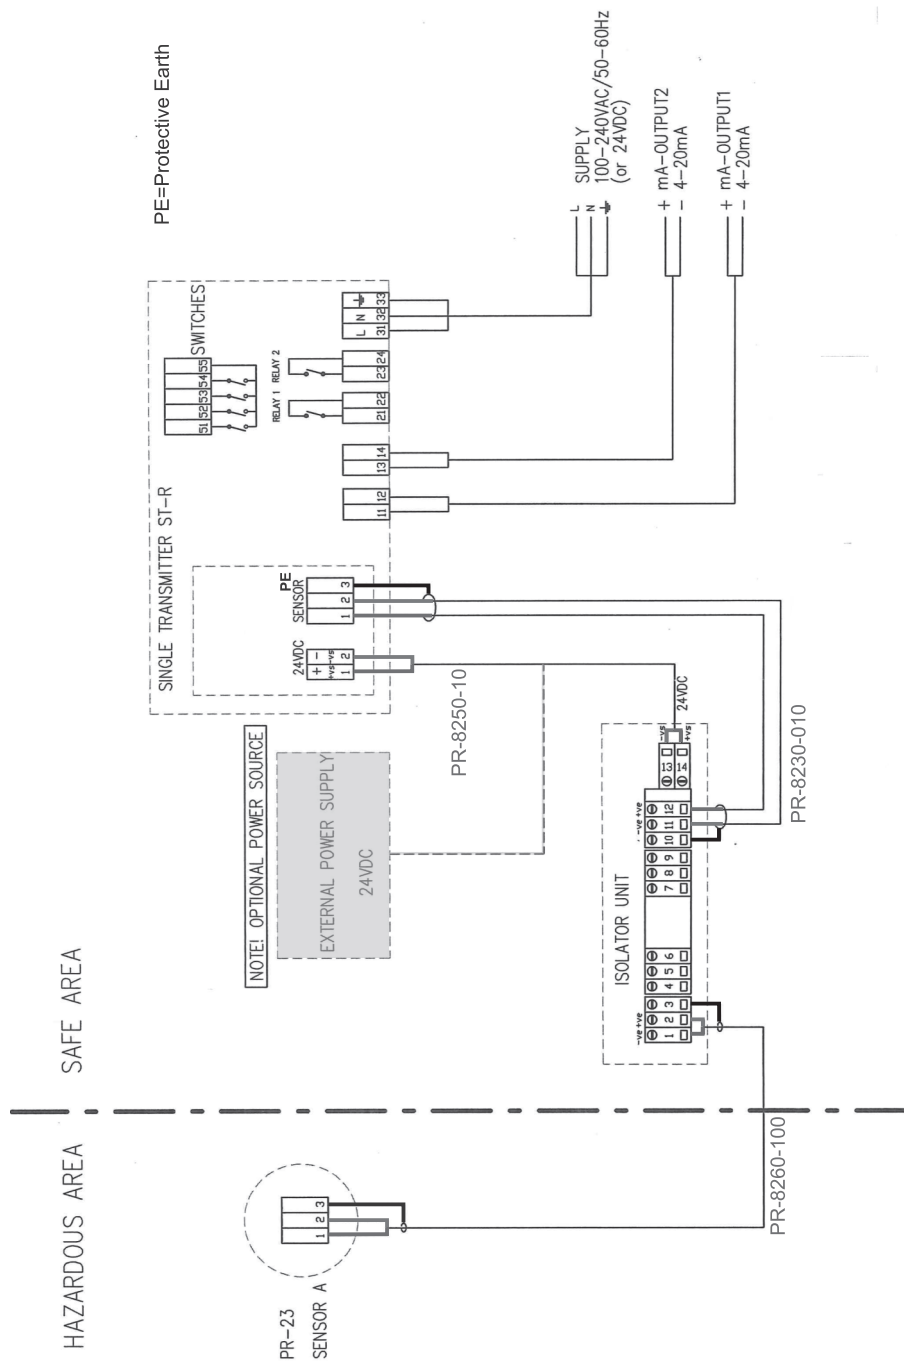
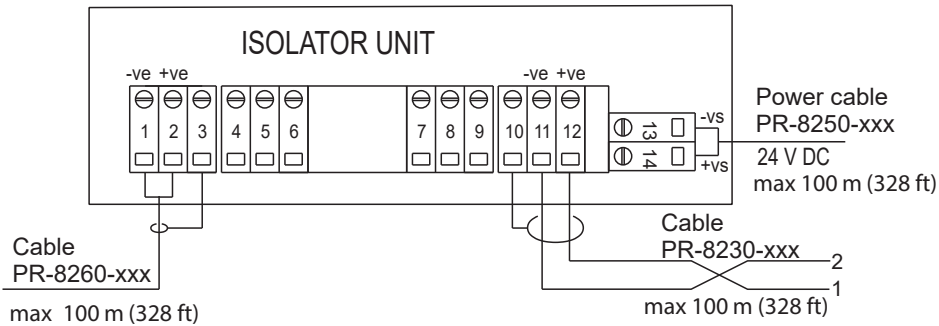

Figure 86 Intrinsically safe wiring, PR-23-...-IA/-CI according to WRG-362
Figure 88 Isolator unit wiring
- The intrinsically safe cable between isolator unit and sensor, part RP-8260-xxx, where xxx is the cable length in meters. The maximum length is 200 m (660 ft). For cable connections see Figure 86 \(page 163\) and Figure 88 \(page 166\).